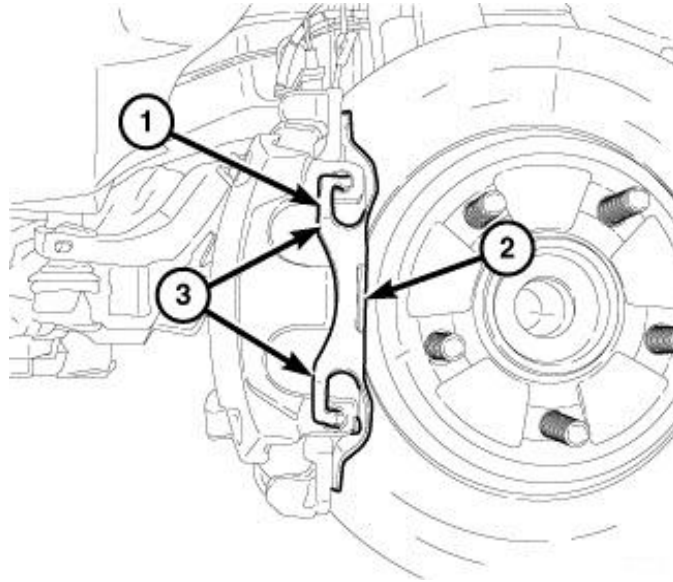

Fig. 5 Tension Clip Installation
13. Install the brake caliper tension clip (1) (Fig. 5).